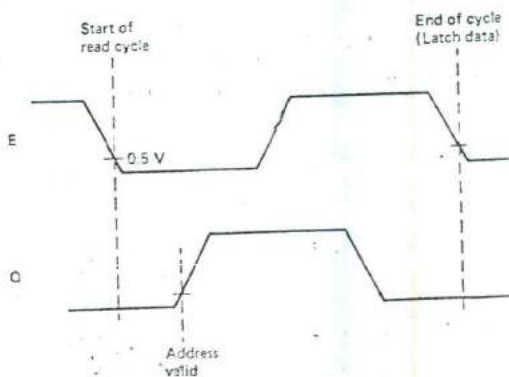

Fig. 12-12 E and Q clock signals:
Figure 12-11 also shows that the E clock signal from the microprocessor is connected to the active high enable input of the 74LS138 decoder. This connection ensures that one of the 8K blocks will be selected only when the E clock is high. Figure 12-12 shows why this is necessary. A read cycle begins when the E clock drops to 0.5 V. The address bus takes time to set up and is not valid until the Q clock signal rises to 0.5 V. Then the E signal goes high. If the E clock is used to enable the decoder, no device will be selected during the time the address bus is setting up. The data are read (latched) into the microprocessor on the falling edge of E.
The timing diagram of Fig. 12-12 shows that only one-half clock cycle is available for a memory device to be read. This can present a problem in some systems. The MC68B09 microprocessor can be operated
32. Refer to Fig. 12-12. When is the address bus invalid?
33. Refer to Fig. 12-12. Ignore propagation delay in the decoder. With a 1-MHz clock, how much time is available for memory access if the E clock is used for the enable signal? How much time is available if the enable signal is E OR Q?